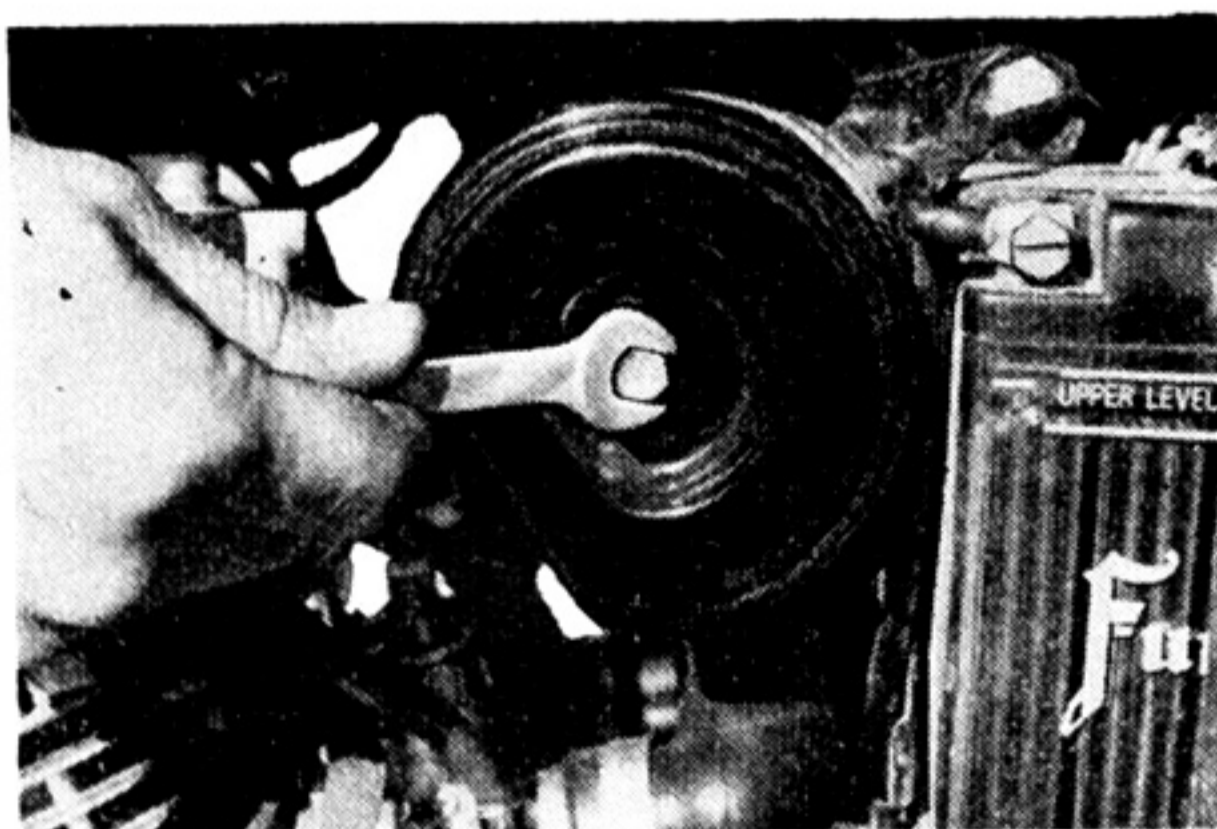

Fig. 3-19-1
- Remove the air cleaner mounting bolt, and take out the air cleaner case cap. (Fig. 3-19-1)